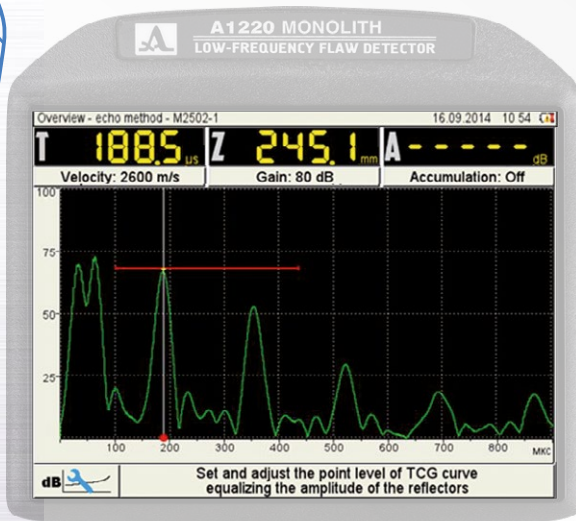

Figure 21
- Repeat the procedure of node point creation for a distant reflector (Figure 21). Correct the vertical position of the point in such a way, that the amplitudes of signals from near and far reflectors are at the level of the strobe.